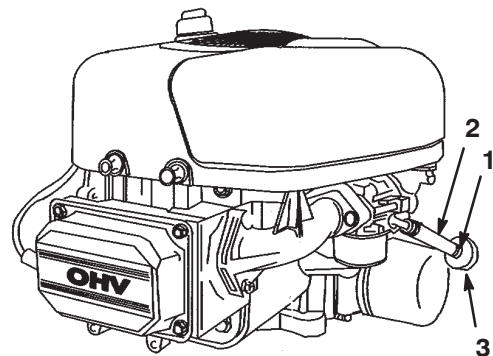

Figure 27
8. Squeeze the ends of the hose clamp together and slide it up the fuel line toward the fuel tank (Fig. 27).
9. Pull the fuel line off of the filter (Fig. 27) and allow the gasoline to drain into a gas can or drain pan.
The best time to replace the fuel filter (Fig. 27) is when the fuel tank is empty. Never install a dirty filter if it is removed from the fuel line.
7. Squeeze the ends of the hose clamps together and slide them away from the filter (Fig. 27).